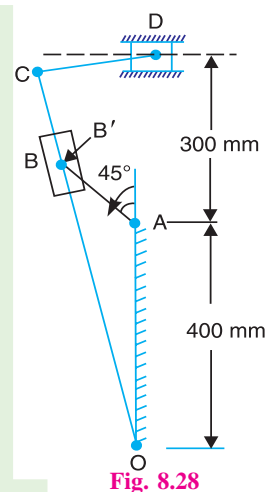

Fig. 8.28
**Example 8.13.** A mechanism of a crank and slotted lever quick return motion is shown in Fig. 8.28. If the crank rotates counter clockwise at 120 r.p.m., determine for the configuration shown, the velocity and acceleration of the ram  $D$ . Also determine the angular acceleration of the slotted lever.